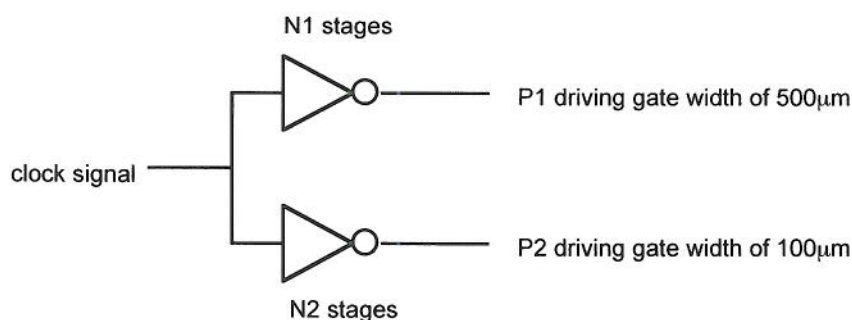

Figure 5.2
- b) In a 180nm CMOS process, the widths of a minimum size inverter p and n transistors are 360nm and 180nm respectively. The unit delay is given to be 20ps. The circuit contains two separate clock paths P1 and P2 as shown in *Figure 5.2*. The total gate widths seen by the two paths are 500 μ m and 100 μ m respectively.
- (i) Using the method of logical effort, or otherwise, estimate the clock skews between the paths if the inverters shown in *Figure 5.2* are minimum size.